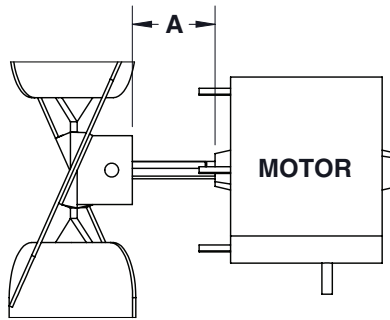

Figure 5. Fan and Motor Spacing (Refer to Table 6)
6. Ensure that fan is in proper position on shaft (see Figure 5) and setscrew is tightened in accordance with torque listed in Table 6.
*See Figure 5.